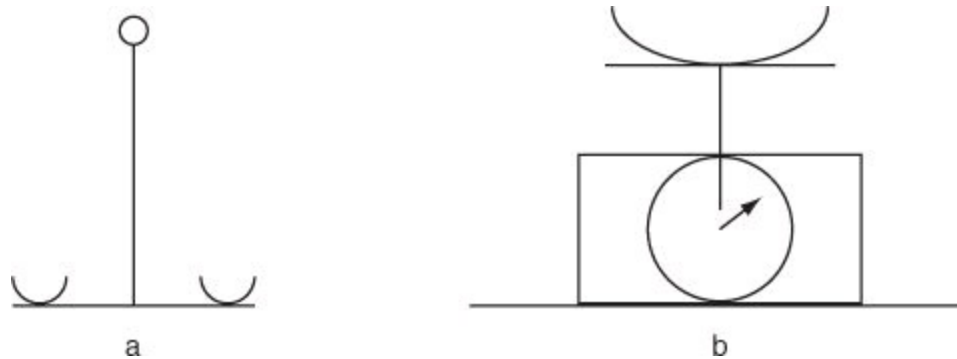

Figure P2.2.7
****2.2.7.** Two scales are shown in Figure P2.2.7, a balance (a) and a spring scale (b). In the balance, calibrated weights are placed in one pan to balance the object to be weighed in the other pan. In the spring scale, the object to be weighed is placed on the pan and a spring is compressed that moves a dial on a scale in kilograms.